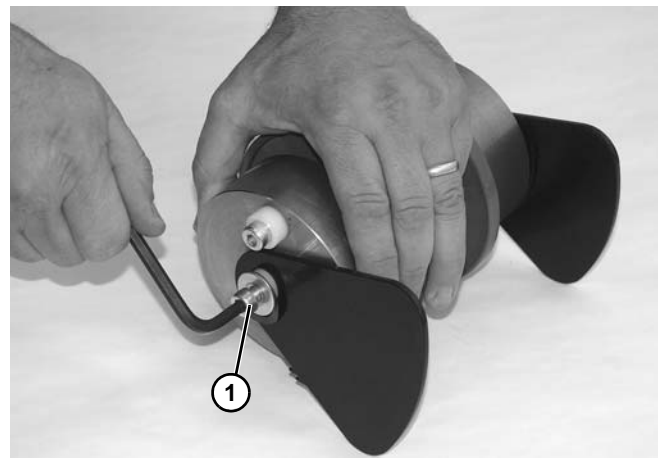

Figure 98
- Remove socket head screw (Figure 98, item 1) from end of idler pulley assembly.